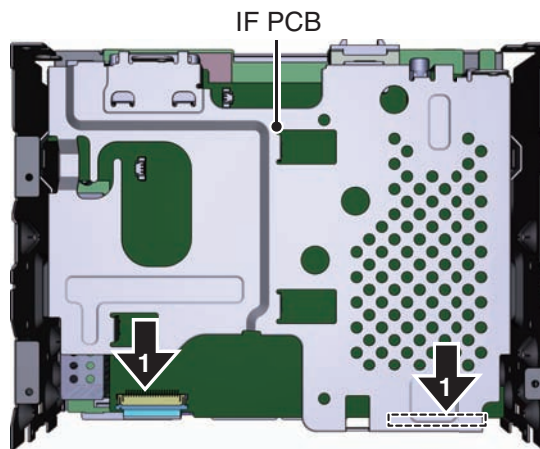

Fig.10
● Removing the IF PCB (Fig.10, 11)
- ➔ 1 Disconnect the two FFC.(Fig.10)